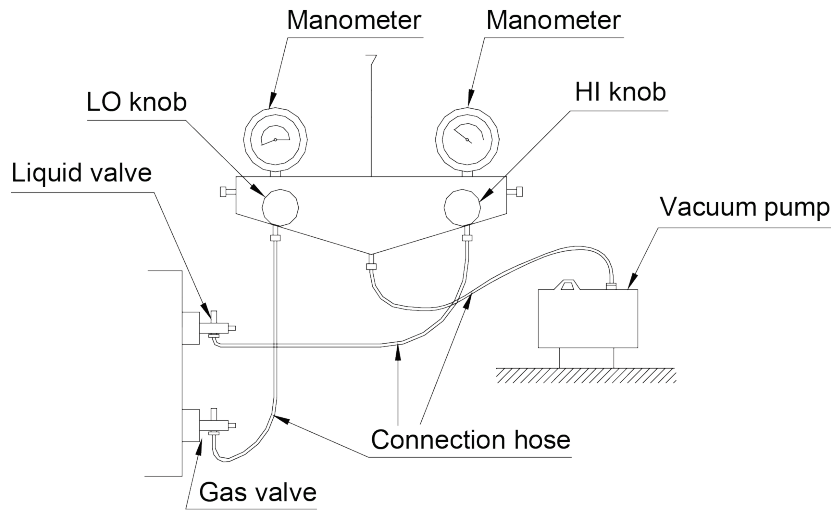

Fig.4.20
- (1) Outdoor unit has been charged with refrigerant before delivery. Field-installed connection pipe needs to be charged with additional refrigerant.
- (2) Confirm whether outdoor liquid and gas valves are closed.
- (3) Use vacuum pump to withdraw the air inside indoor unit and connection pipe from the outdoor valve, as shown in Fig.4.20.